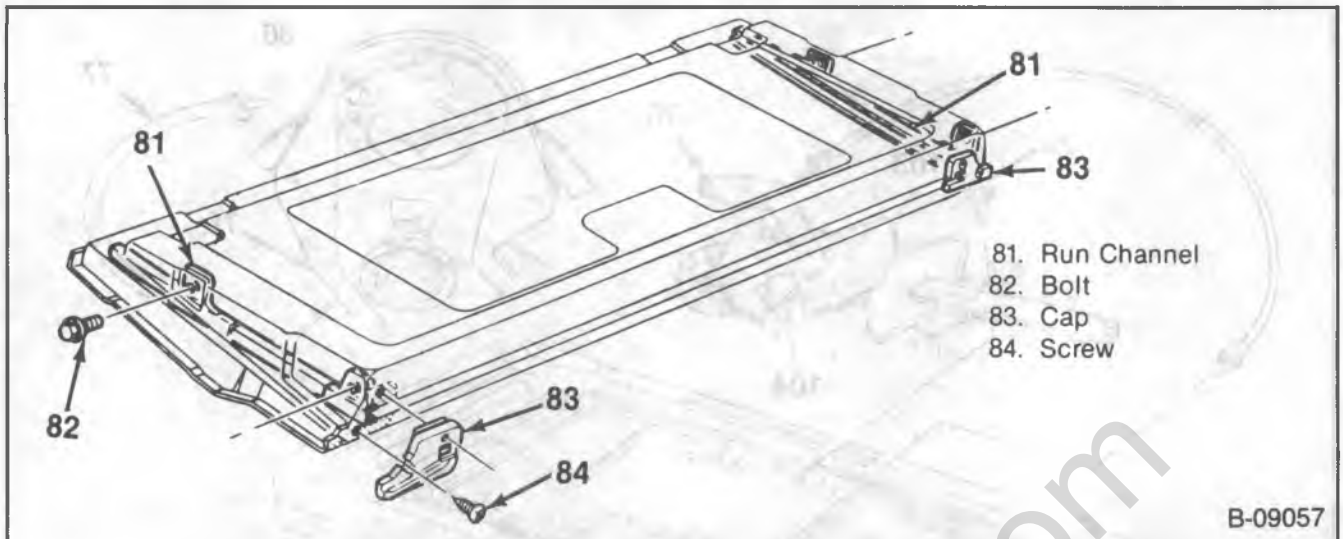

Figure 12 — Run Channel Components
1. Window run channel caps (83) (figure 12).
- Regulate the window so that the sash channel bolts (72) are accessible.
4. Sash (73) to sash channel bolts (72).
5. Sash (73) with glass (75) from the end gate.
6. Sash rails (71) from the regulator (69).
1. Sash rails (71) to the regulator (69).
2. Sash (73) with glass (75) to the end gate.
3. Sash (73) to sash channel bolts (72).
6. Window run channel caps (83) (figure 12).
Remove or Disconnect (Figure 12)
Install or Connect (Figure 12)